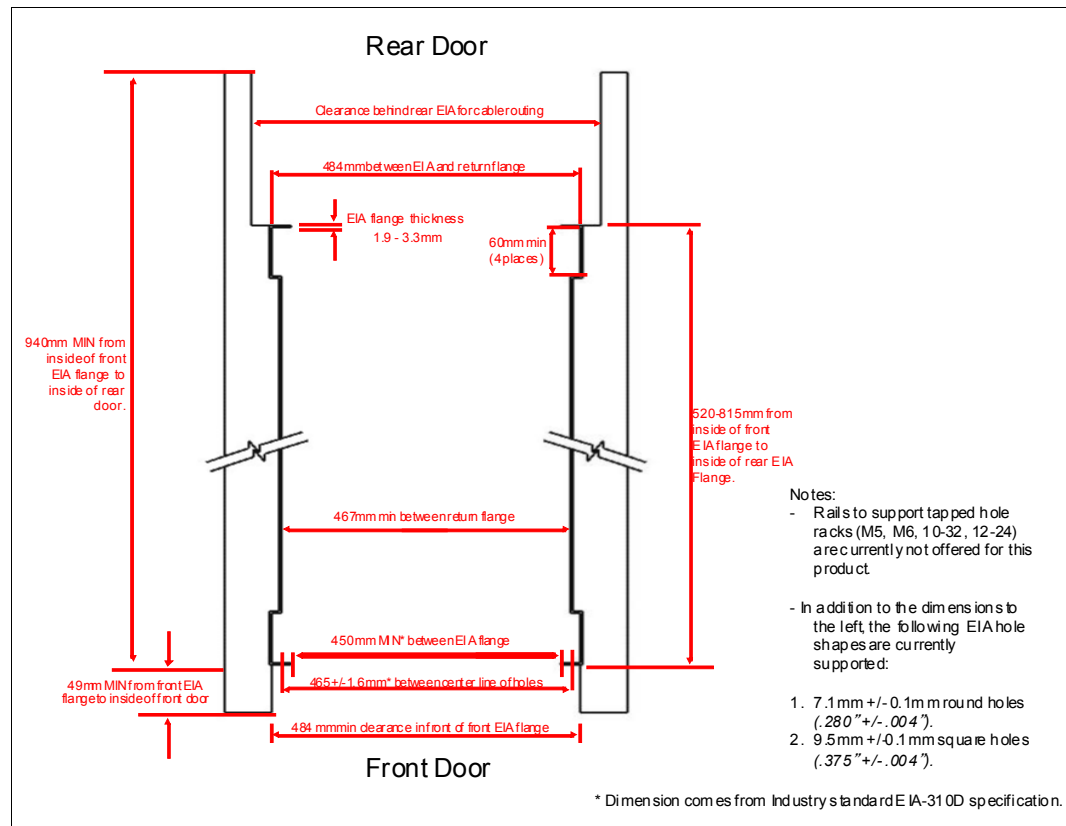

Figure 1-15 Top view of the rack specification dimensions (not specific to IBM)
- The front rack opening must be 451 mm wide ± 0.75 mm (17.75 in. ± 0.03 in.), and the rail-mounting holes must be 465 mm ± 0.8 mm (18.3 in. ± 0.03 in.) apart on-center (that is, the horizontal width between the vertical columns of holes on the two front-mounting flanges and on the two rear-mounting flanges). Figure 1-15 is a top view showing the specification dimensions.